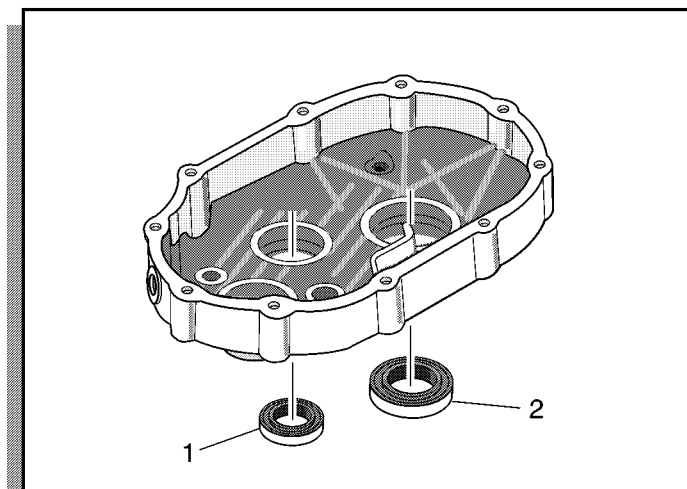

Fig. A-9 Oil Seal Removal
8. Using a seal puller, carefully remove the remaining oil seals (1, 2) from the casing (Ref Fig. A-9 on page A-4).